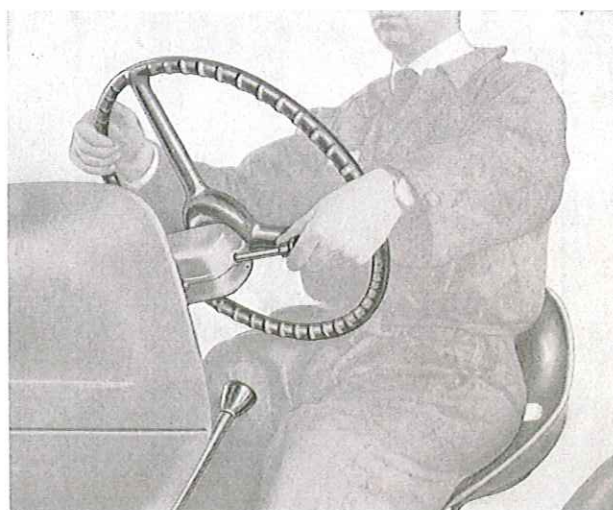

Fig. 10. - Operating the light-switch and electric horn.
- 1 lighting switch, located below the steering wheel, for switching on the parking lights and low and high-beam headlights. Progressively rotate the hand-knob (fig. 10), pushing on it towards the steering wheel for operating the electric horn.